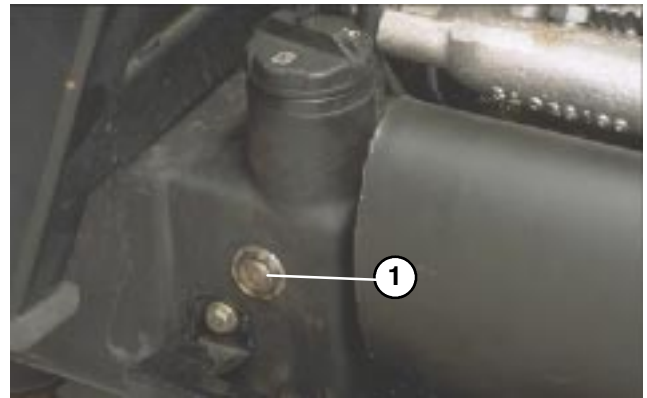

Figure 47
5. With wing decks raised, center deck down and oil warm, look into sight gauge (Fig. 47). If hydraulic oil is not visible, add enough oil to raise level to middle (maximum) of sight gauge. To prevent over filling, do not fill if oil is cold. DO NOT OVER FILL.